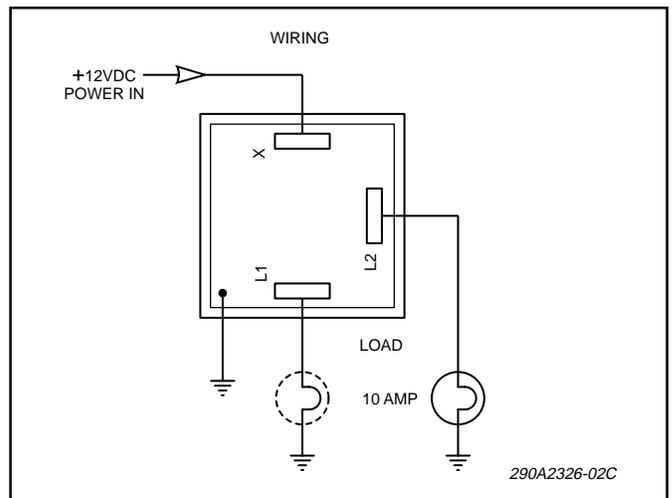

Figure 2.
- a. Connect the 12 VDC source to the terminal marked "X" as shown in figure 2.
- b. Connect the two loads to the two terminals marked "L" as shown in figure 2.